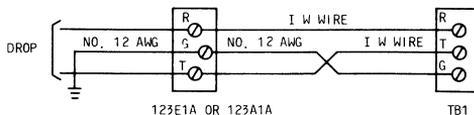

Fig. 30—Special Protection Requirements
3.43 Provide individual signaling ground for each station. Select and place wire in accordance with Section 461-200-100. Provide individual and multiple station grounding in accordance with Sections 460-100-400 and 506-100-100. Refer to Fig. 30 for special protection requirements and Section 508-100-100 to check for proper bonding and grounding of telephone enclosure commercial power.
Caution: When protector is mounted inside set, bond the protector ground to signal ground (terminal G on coin chassis) with No. 12 AWG wire (Fig. 30).